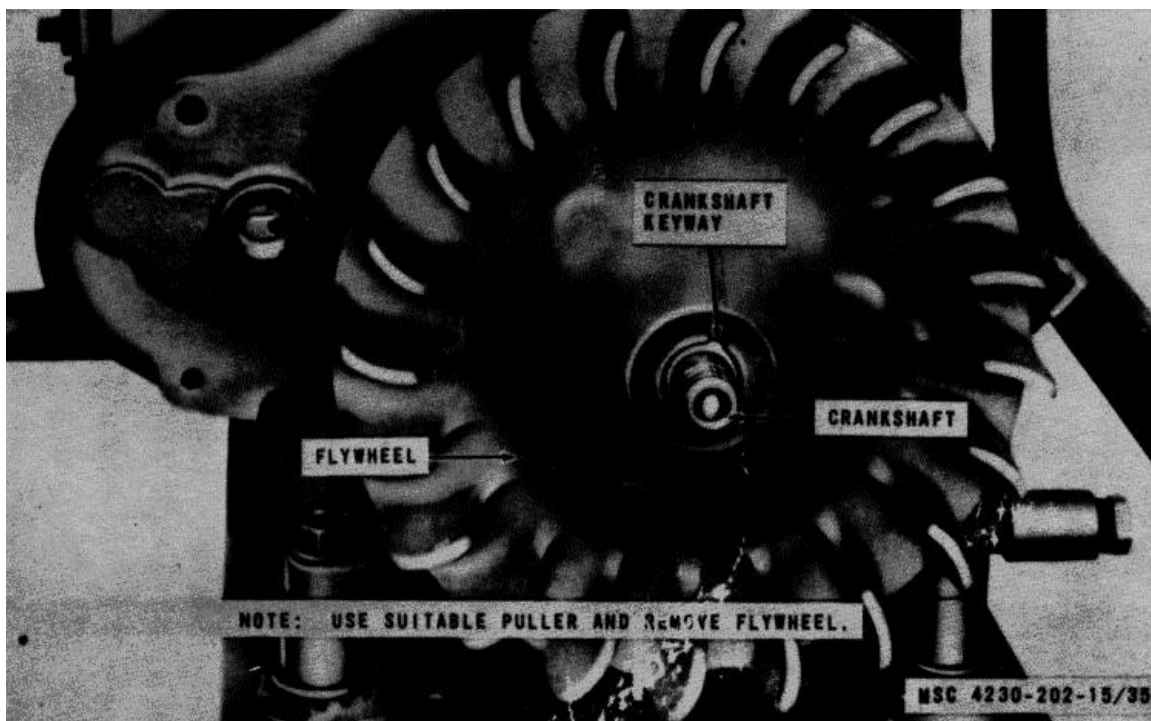

Figure 3-28. Flywheel, removal and installation
- (1) Remove the flywheel shroud (para. 3-35).
- (2) Remove the rope starting sheave (para. 3-47).
- (3) Refer to figure 3-28 and remove the flywheel.
- (1) Refer to figure 3-28 and install the flywheel.
- (2) Install the rope starting sheave (para. 3-47).
- (3) Install the flywheel shroud (para. 3-35).